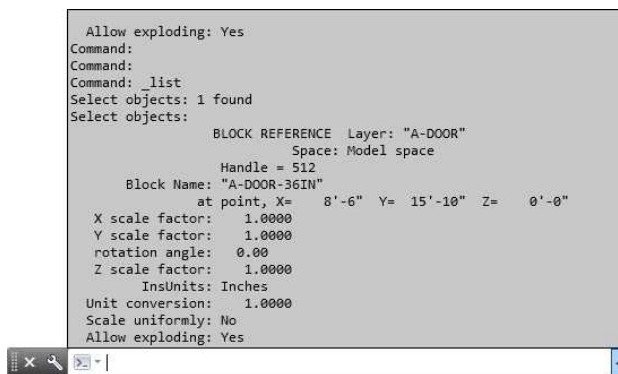

FIGURE 7.19: The expanded AutoCAD command line
The AutoCAD command line temporarily expands to cover the drawing area (see Figure 7.19). In the command-line interface, you can see the words **BLOCK REFERENCE Layer: "A-DOOR"**, followed by 12 lines of text. These 13 lines describe the block you selected.
4. Should the command line collapse, pressing F2 will expand the AutoCAD command line once again to display the information shown in Figure 7.19.